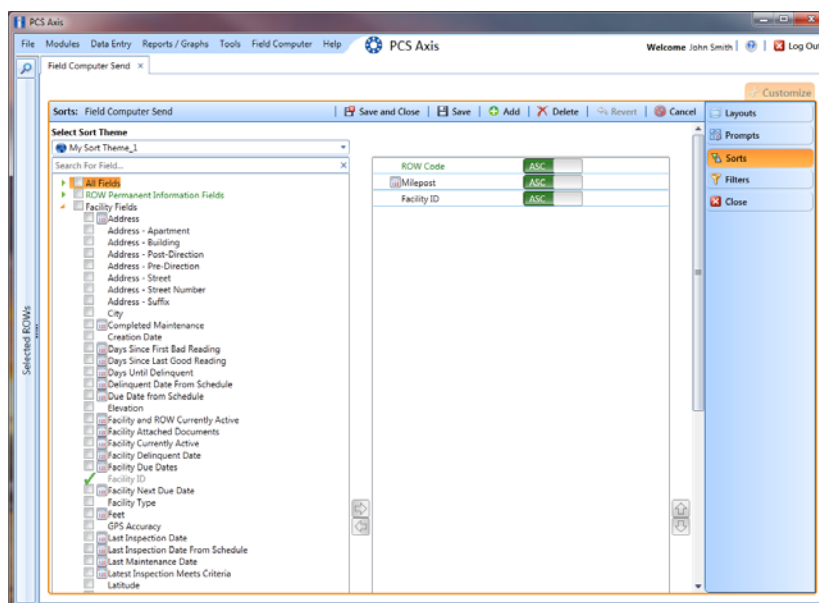

Figure 12-33. Sorts
- 8 Click  **OK** to save changes and return to the *Sorts* page (Figure 12-33, page 508).